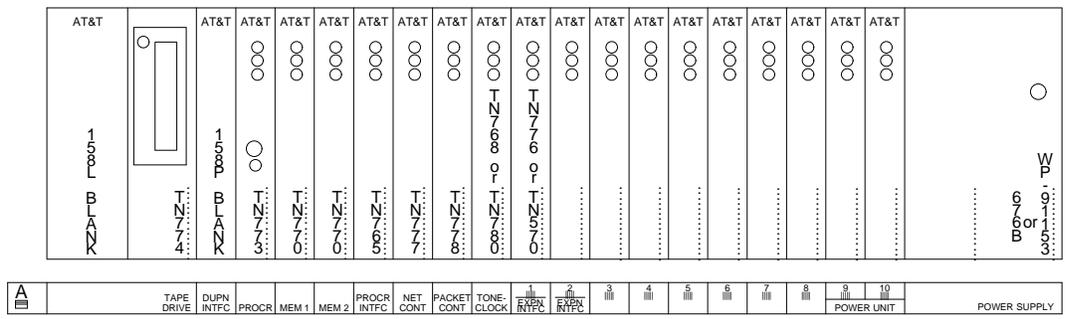

Figure 6-4. Circuit-Pack Locations in Simplex G3i V1 Control Cabinet
2. See WARNING. Install the TN770 memory circuit pack in the "MEM 2" slot (see Figure 6-4).
2. See WARNING. At each control cabinet, install the TN770 memory circuit pack in the "MEM 2" slot (see Figure 6-4).